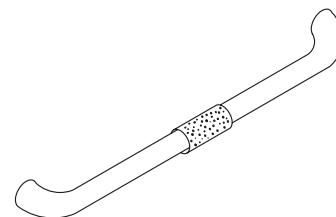

Figure 32
8. Install foam grip on lid handle. See Figure 32. **Tip:** For ease of installation, slightly lubricate the lid handle with liquid soap before pushing the foam grip into place.
Attach the lid stop assembly to the grill bottom as shown in Figure 32.